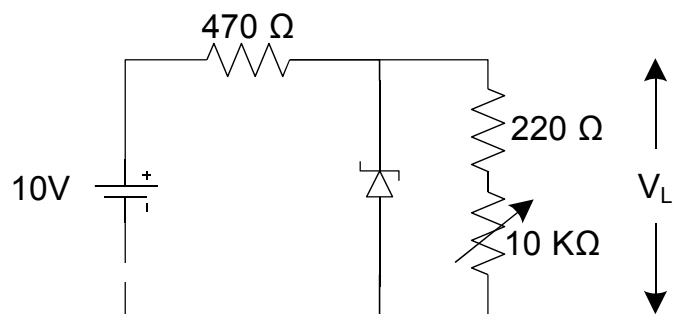

Figure 4.4: Load Regulation
3. Connect the circuit as shown in the figure 4.4